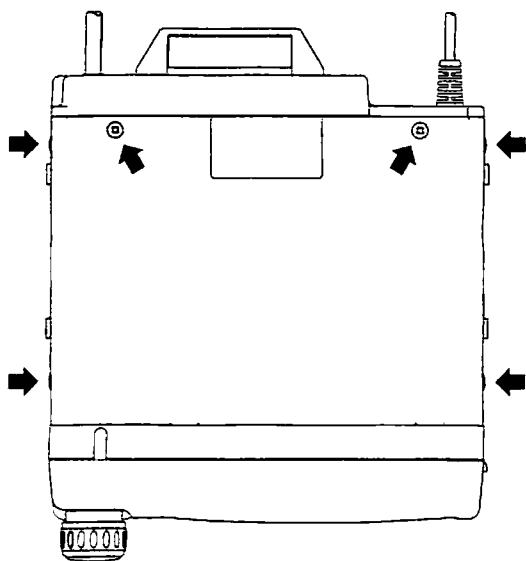

Figure 1
- ☐ Disconnect the power cable, and turn the set upside-down. Referring to Figure 1, remove the six screws affixing the bottom cover.